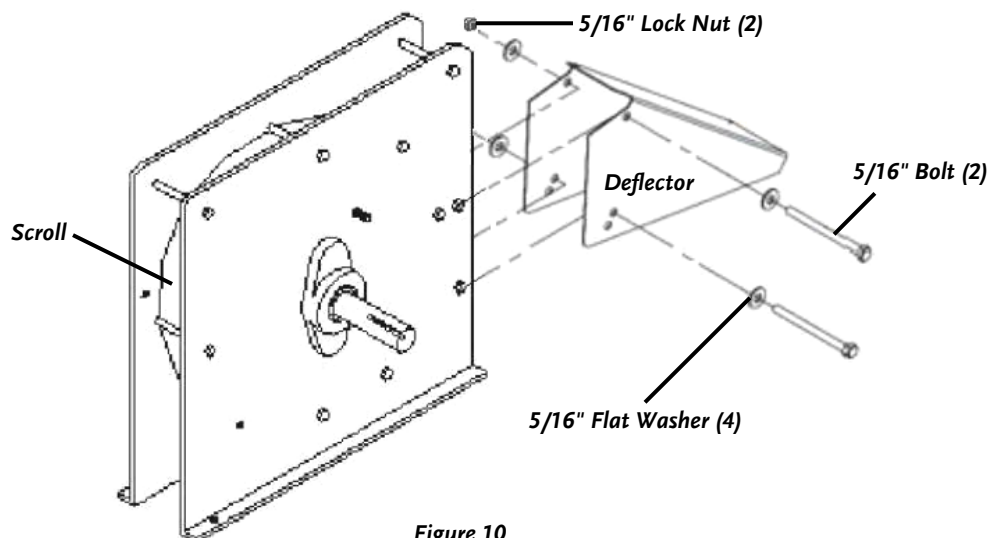

Figure 10
2. Remove any material left in the Chipper Hopper and then remove the Deflector (Bottom Discharge model) by removing the two (2) 5/16" x 4" Bolts (**Figure 10**). For the Top Discharge model, remove the Discharge Chute (**Figure 3** on page 17) by just loosening the two (2) 5/16" x 4" Bolts.
1. Hold the Deflector (**Figure 10** on page 28) in place at the Discharge opening of the Chipper.
2. Place a 5/16" Flat Washer on a 5/16"-18 x 4" Bolt and then slide the Bolt through both the top two (2) holes of the Chipper body and the Deflector.
NOTE: Be certain that the Bolt attaching the Deflector to the Chipper passes through the pipe (tube) welded to the Scroll (**Figure 10** on page 28).